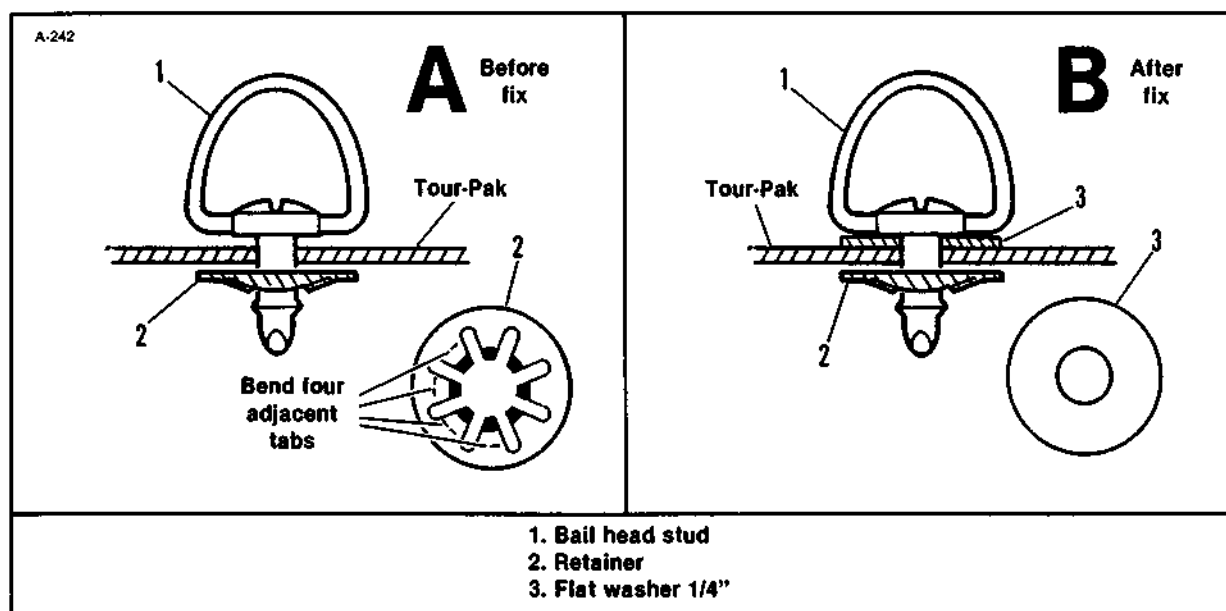

Figure 1. Flat Washer Installation
### Procedure for Field Fix (See Figure 1)
1. With a pen knife or small screwdriver, bend four adjacent tabs on the retainer washer (2) to enlarge the inside opening. Retainer washer will now fall free.
2. Remove bail head stud (1).
3. Place an SAE standard 1/4" flat washer (3) over stud and reinsert stud through Tour-Pak hole.
4. With pliers, flatten tabs on retainer (2) closing the opening to original size.
5. Force retainer (2) flat side first, over shoulder of bail head stud (1) as shown in Figure 1.